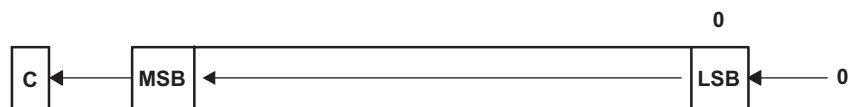

Figure 4-44. Destination Operand-Arithmetic Shift Left
**Description** The destination operand is shifted left one position as shown in Figure 4-44. The MSB is shifted into the carry bit (C) and the LSB is filled with 0. The RLAX instruction acts as a signed multiplication by 2.